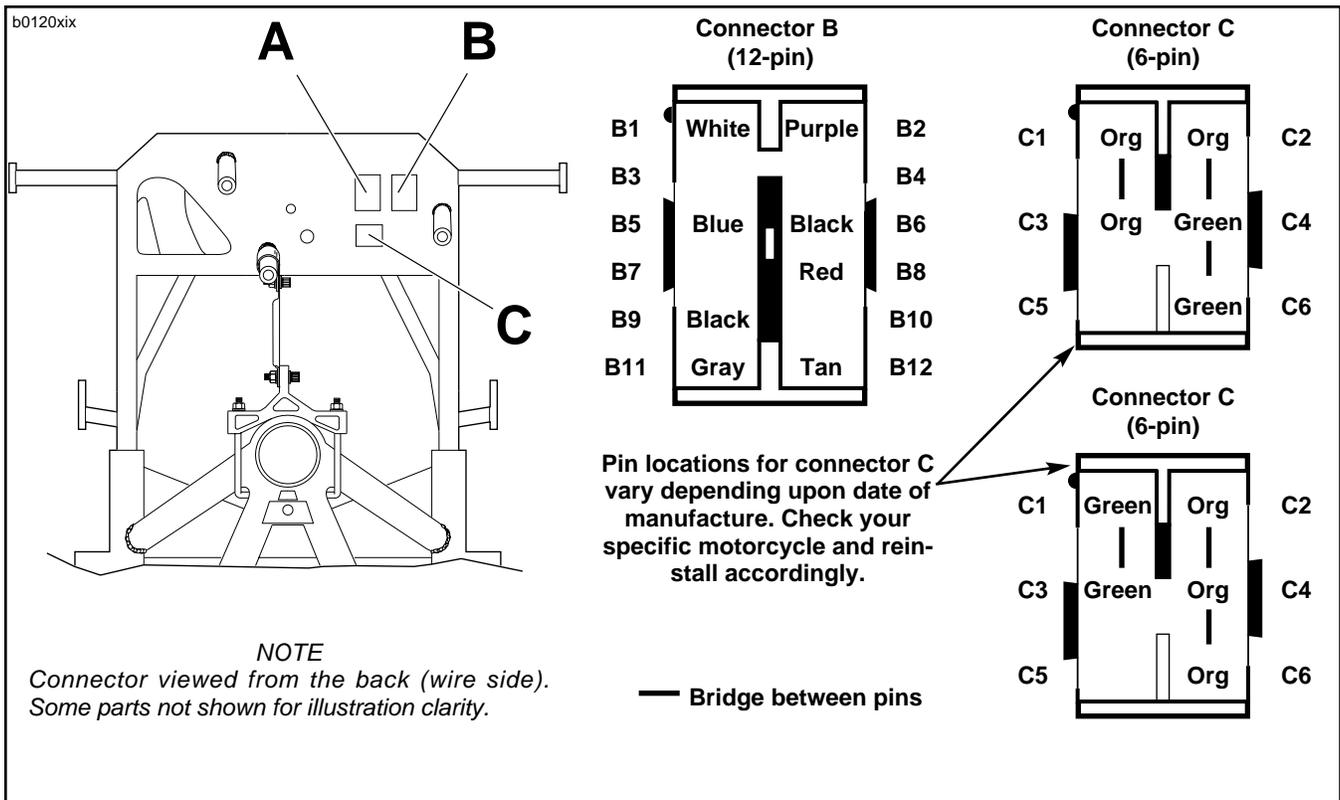

Figure 2. Fairing Bracket Connectors
7. See Figure 2. Unplug pin and socket connectors [B, 12-pin and C, 6-pin]. Remove connectors one at a time from fairing bracket. Mark top side of each connector for reference.
8. See Figures 2 and 3. Extract the appropriate pins from the 12-pin connector [B] and 6-pin connector [C] using PIN TERMINAL REMOVER (Part No. HD-39621-28).
4. See Figures 2 and 4. Extract the appropriate pins from the 12-pin connector [B] and the 6-pin connector [C] using PIN TERMINAL REMOVER (Part No. HD-39621-28). Disconnect the two single pin connectors [yellow and white].
9. See Figures 2 and 3. Install right handlebar wires in 12-pin connector [B] and 6-pin connector [C]. Do not install connectors in fairing bracket at this time.
9. See Figures 2 and 4. Install left handlebar wires in the 12-pin connector [B] and the 6-pin connector [C]. Connect the two single pin connectors [yellow and white].